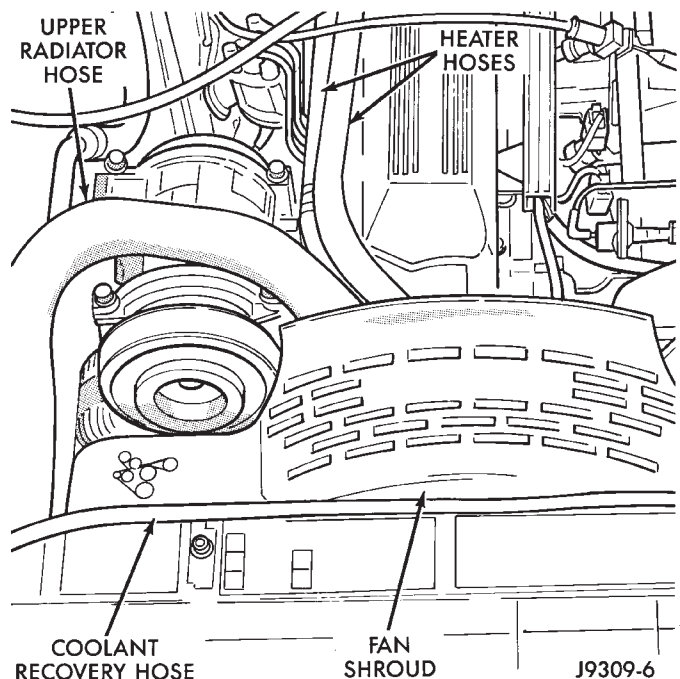

Fig. 29 Upper Radiator Hose, Coolant Recovery Hose, Fan Shroud & Heater hoses
- (4) Remove the upper radiator hose and coolant recovery hose (Fig. 29).
- (5) Remove the lower radiator hose.
- (6) Remove upper radiator support retaining bolts and remove radiator support.
- (7) Remove the fan assembly from the water pump.
- (8) Remove the fan shroud (Fig. 29).
- (9) Disconnect the transmission fluid cooler lines (automatic transmission).
- (10) Discharge the A/C system. (Refer to Group 24, Heating and Air Conditioning)
- (11) Remove the service valves and cap the compressor ports.
- (12) Remove the radiator or radiator/condenser (if equipped with A/C).
- (13) Disconnect the heater hoses at the engine thermostat housing and water pump (Fig. 29).